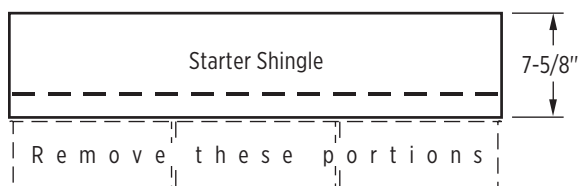

Figure PAT-6: Make starter shingles that are 7-5/8" in height.
1. Use CertainTeed Swiftstart® Starter, or three-tab self-sealing shingles with the lower tab portions removed. Be sure that the starter shingles are at least 7-5/8" in height. (Figure PAT-6).